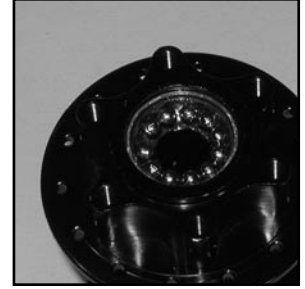

Fig. 6D
9. Remove the ball bearings (Fig. 6D) from both sides of the hub.
1. Place nine 1/4" balls in the ball cup on one side of the hub (Fig. 6D).